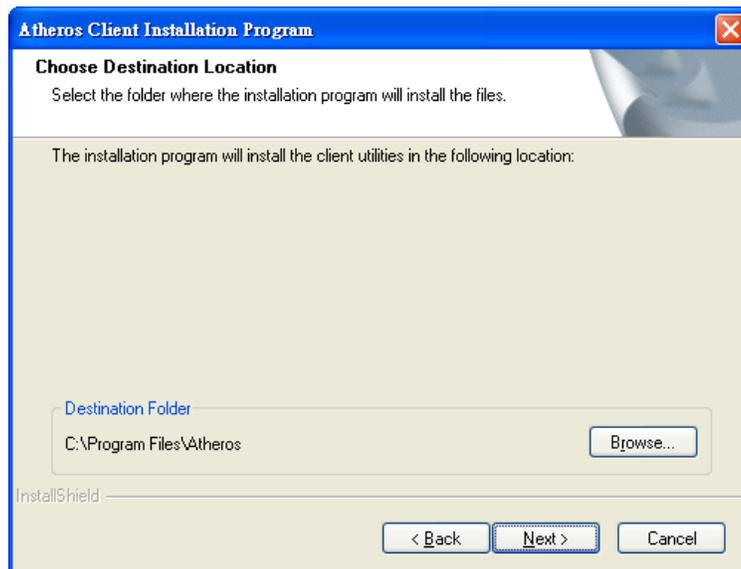

Figure 6-29: Driver Destination Location
Step 8: Confirm or choose the destination location to install the driver then click **NEXT** to continue (**Figure 6-29**).